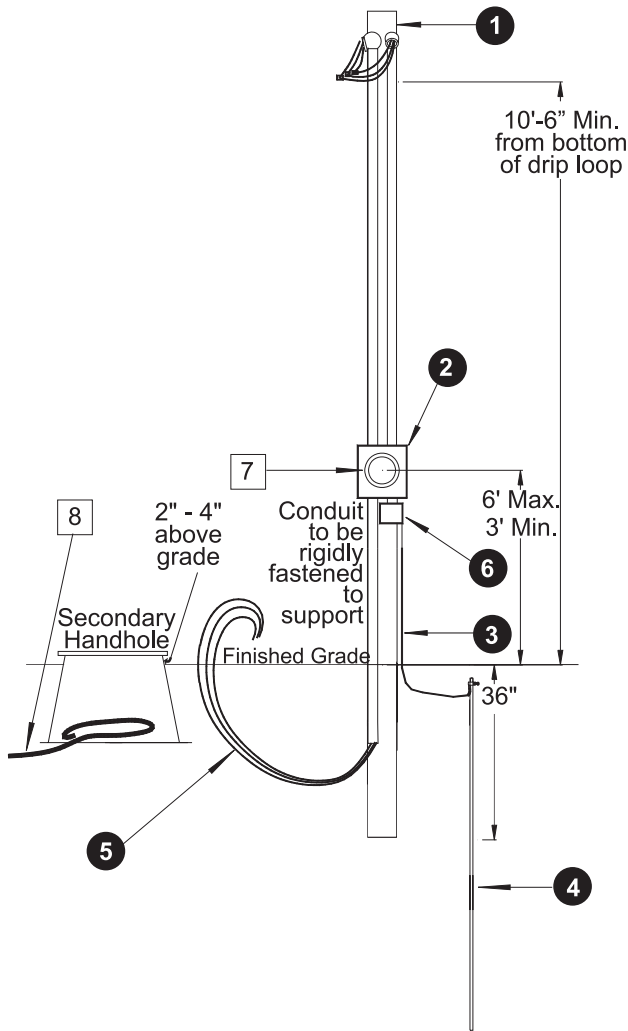

Figure B-3.
If you are in an underground area, you must have an underground temporary service (see Figures B-3 and B-4).
● Items owned/installed by the customer (Figs. B-3, B-4)
□ Items owned & installed by Central Lincoln (Figs. B-3, B-4)